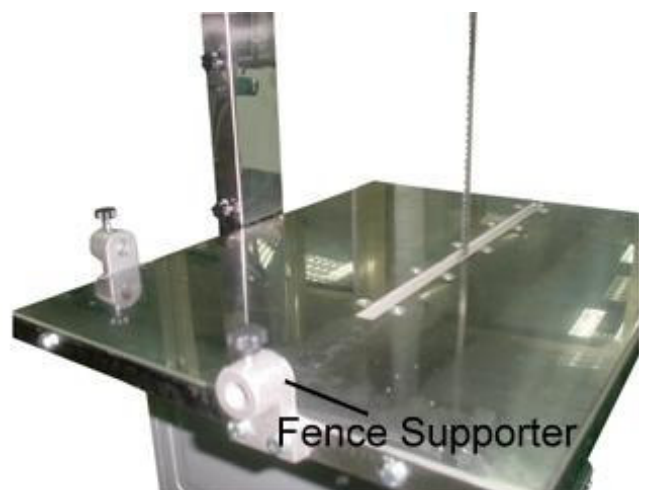

Fig.16-1
1. Attach the fence supporter with hex bolts (M6-1*20) to the table as shown (Fig. 16-1)